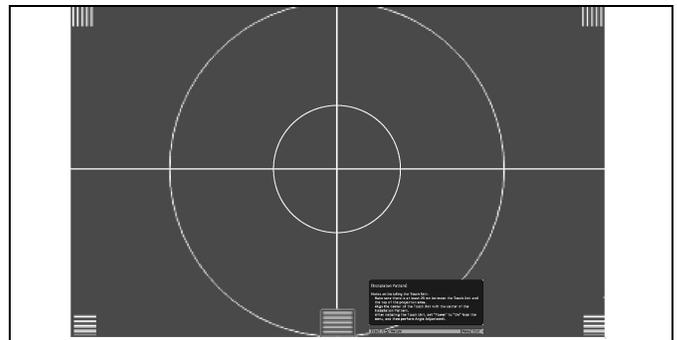

Figure 20
6. The installation pattern is displayed on the projected image. (See Figure 20)
NOTE: Use the center mark on the top frame of screen (red tape at top of frame) to line up with vertical line at center of pattern. (See Figure 20)